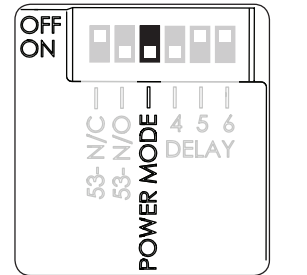

Fig. 6 DIP Switch Setting for POWER MODE Installation
3. Ensure DIP switch (position 3) enables **POWER MODE** (Fig. 6).
<ul style="list-style-type: none"> o Check inputs to confirm proper voltage and wiring orientation (Fig. 6 ElectroLynx POWER MODE Installation). o Remove end cap from rail and confirm that LED is blinking steadily when power is applied. If not, refer to LED signaling. Note: When configured in POWER MODE, power is released to lock the device (LED will not blink when power is released). o Confirm DIP switch position 3 is set to ON.